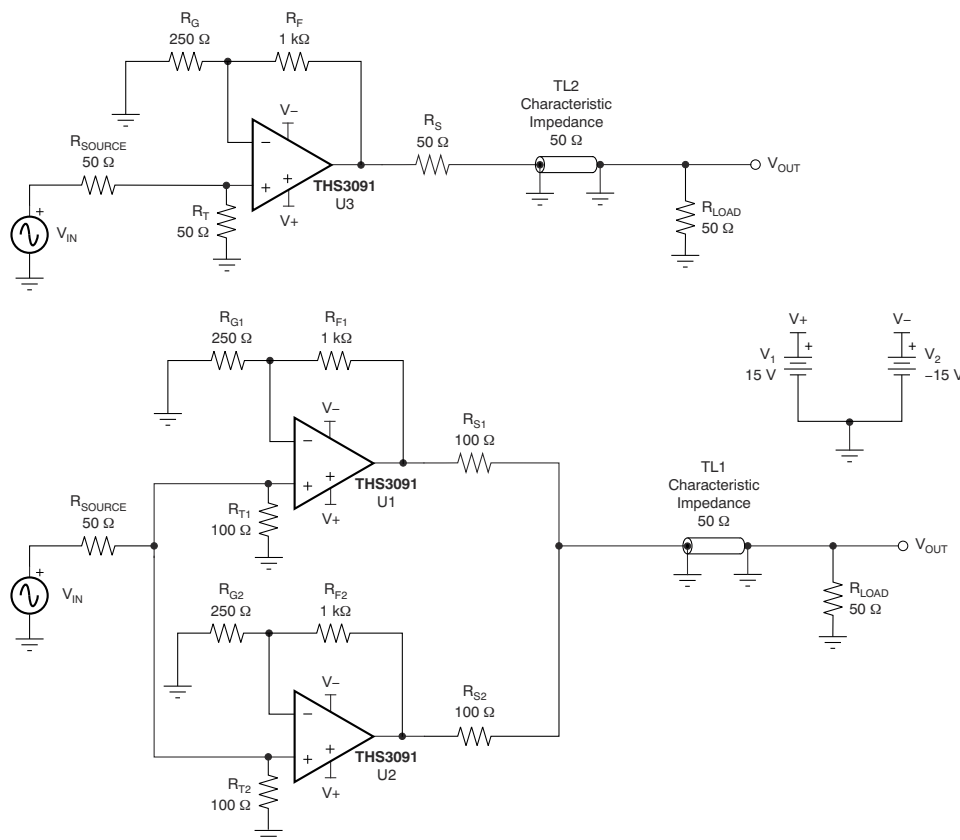

Figure 9-1. Reference THS3091 and THS3091 Load Sharing Test Configurations
The fundamental concept of load sharing is to drive a load using two or more of the same operational amplifiers. Each amplifier is driven by the same source. Figure 9-1 illustrates the schematic for this design. This concept effectively reduces the current load of each amplifier by  $1/N$ , where  $N$  is the number of amplifiers. For further details on the design and performance of this circuit, see the Reference Design for Implementation of the Load Sharing Concept for Large-Signal Applications.
As shown in Figure 9-1 for example, in a two-amplifier load sharing configuration with matching resistance driving a resistive load (RL), each series resistance is  $2 \times RL$  and each amplifier drives  $2 \times RL$ . A convenient indicator of whether an op amp will function well in a load sharing configuration is the characteristic performance graph of harmonic distortion versus load resistance. Figure 7-9 and Figure 7-10 show more information. Such graphs can be found in most of TI's high-speed amplifier data sheets. These graphs can be used to obtain a general sense of whether or not an amplifier will show improved distortion performance in load sharing configurations.
Figure 9-1 shows two test circuits: one for a single THS3091 amplifier driving a double-terminated (50-Ω cable), and one with two THS3091 amplifiers in a load sharing configuration. In the load sharing configuration, the two 100-Ω series output resistors act in parallel to provide 50-Ω back-matching to the 50-Ω cable.
Figure 9-4 and Figure 9-5 show the 64-MHz sine wave outputs of the two configurations from Figure 9-1. While the single THS3091 output is clearly distorted in Figure 9-4, the output of the load sharing configuration in Figure 9-5 shows only minor deviations from the ideal sine wave.